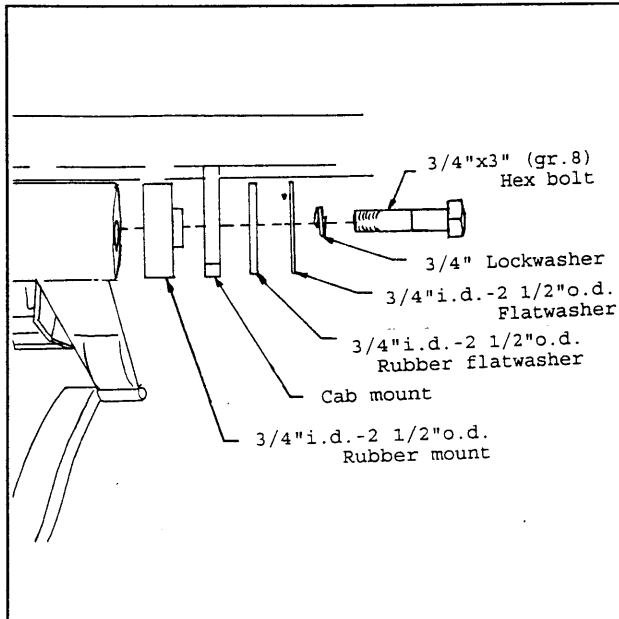

Figure 7
9. Adjust the front cab height until the front cab mounts line up with the front tube of the operator foot platform. Place one 3/4"i.d.-2 1/2"o.d. rubber mount between each cab mount and the tube. Bolt the cab snugly to the tube as shown in figure 7.